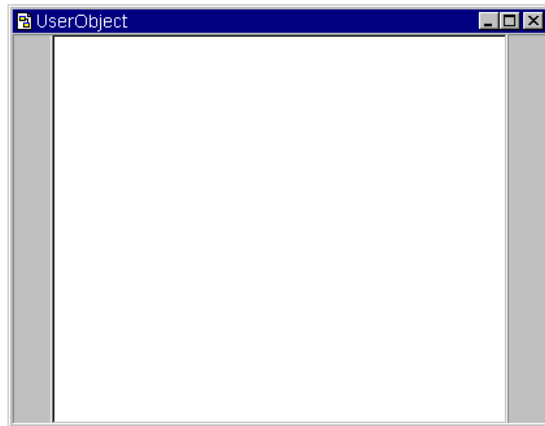

Figure 40 UserObject Window
- Select **Device** ⇒ **UserObject** from the menu bar to bring up an empty UserObject icon in the Main window, and add objects to it. If you double-click the UserObject icon, it is displayed in open view, as shown in Figure 40.